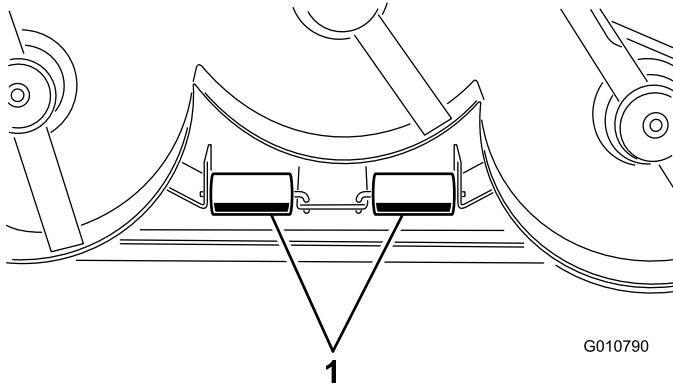

Figure 12
1. Remove the cotter pins securing the roller shafts to the brackets on the underside of the deck (Figure 12).